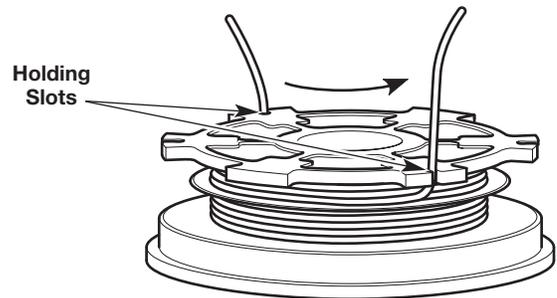

Fig. 21
3. Insert the two 6-inch (15 cm) ends into the two .095 holding slots (Fig. 21).
4. Insert the two 6-inch (15 cm) ends into the two .095 holding slots (Fig. 21).